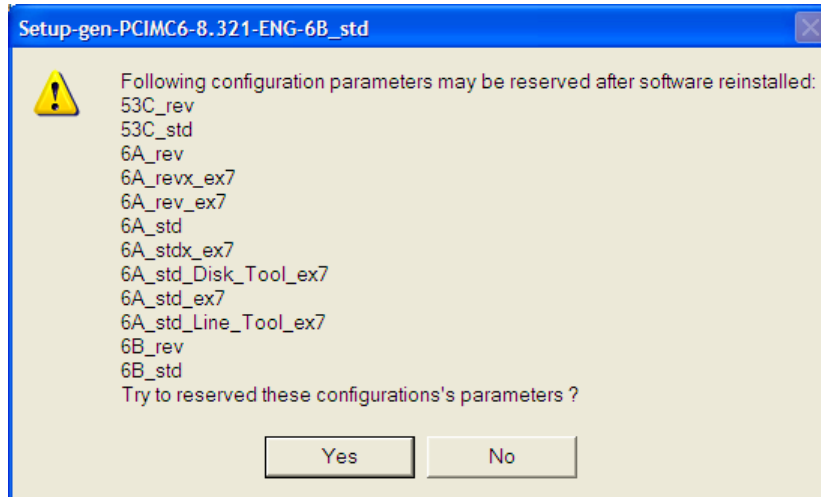

Fig. 2-3 Prompt to reserve parameter settings
- 5) Click [OK] for confirmation. If old version software has been installed in this PC, the system will prompt to save its parameter settings. If you save the parameter settings here, you can apply all the settings to the current software, needless to set the parameters again afterwards. You can make your own decision and choose [Yes] or [No] to go ahead, see Fig. 2-3. If you install the software of the type for the first time, this step would be absent. Please jump to “Step 6)” to move on.